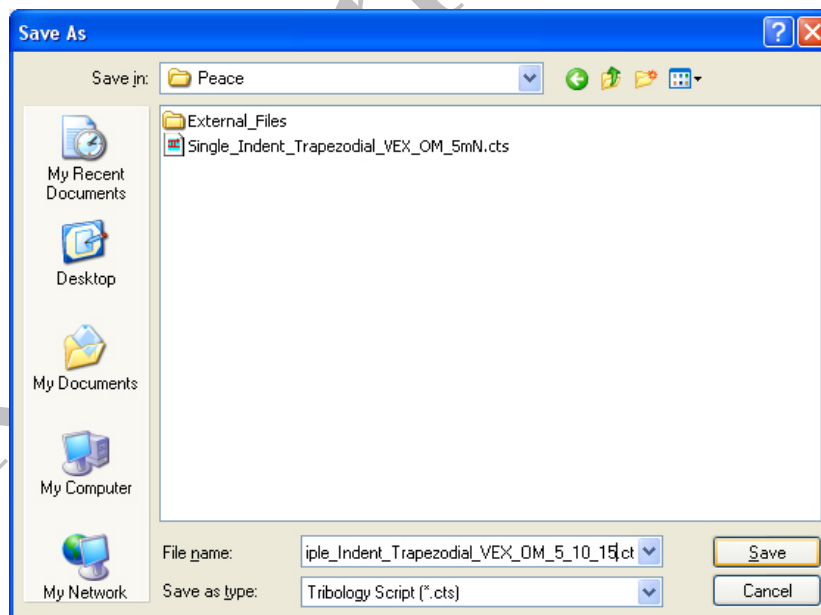

Figure 23: Saving the newly created script to a separate file.
- 10) Save the new script (you can create your own script folder if you like, but use a different name than the pre-built scripts) Figure 23 shows a new script being saved into a user's folder: